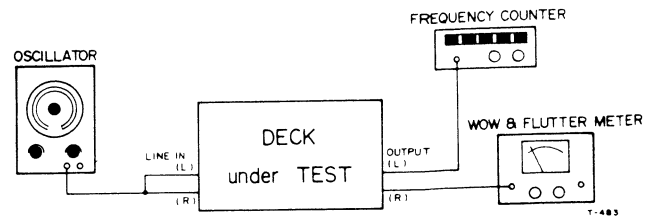

Fig. 5-5 Tape Speed/Wow & Flutter Measurement Setup
1. Connect test equipment to the deck, except the AF oscillator, as shown in Fig.5-5.
1. Connect test equipment to the deck as shown in Fig.5-5.